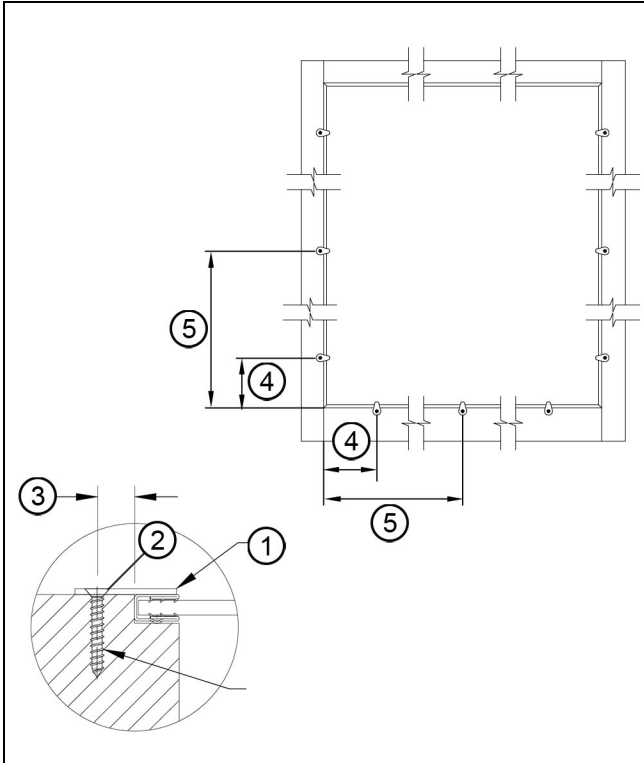

Figure 10
1. Pre-drill 5/16" from the edge of the sash with a 3/32" drill bit at mid points and 4" from each corner of the sides and bottom. Set the energy panel on the sash then fasten the turn buttons at the pre-drilled locations with the screws provided. See Figure 10.